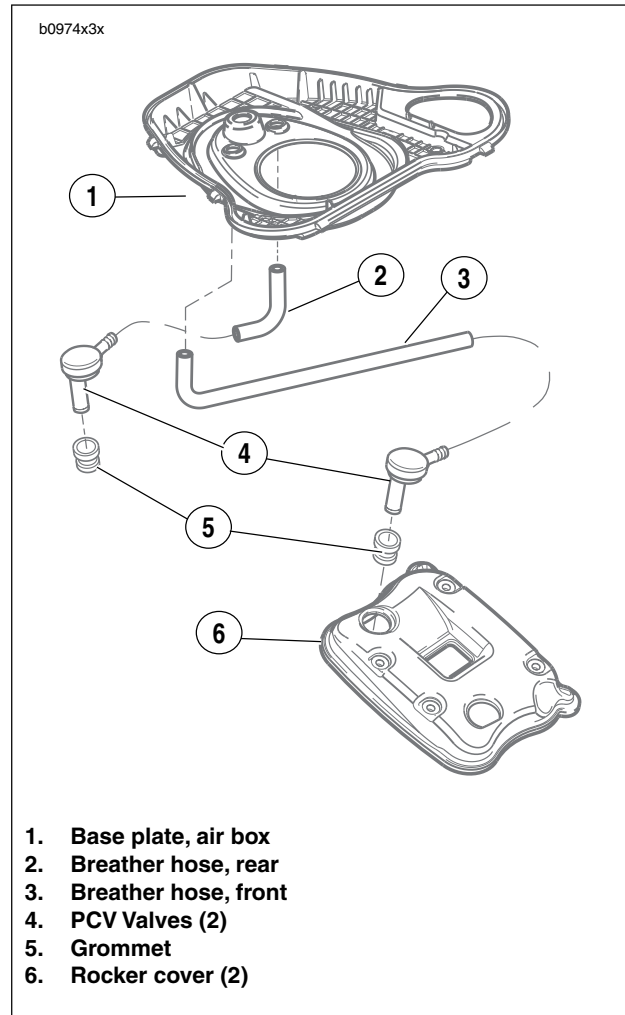

Figure 3-113. Crankcase Breathing System,
See Figure 3-113. Air is allowed to escape the rocker boxes by exiting the positive crankcase vent (PCV) valves (4) located on top of the rocker boxes. From the PCV valves the air enters the crankcase breather hoses (2, 3). The crankcase breather hoses route through the air cleaner base plate (1) to the air box where it is directed inside the air filter element and back into the engine.